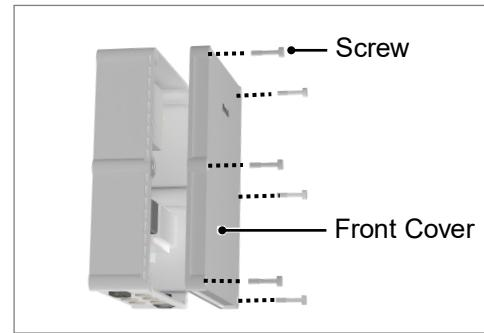

Fig 27. Remove BMS Gateway Front Panel
- Use a Phillips head screwdriver to remove the six plastic screws attaching the front cover to the enclosure (Fig 27).